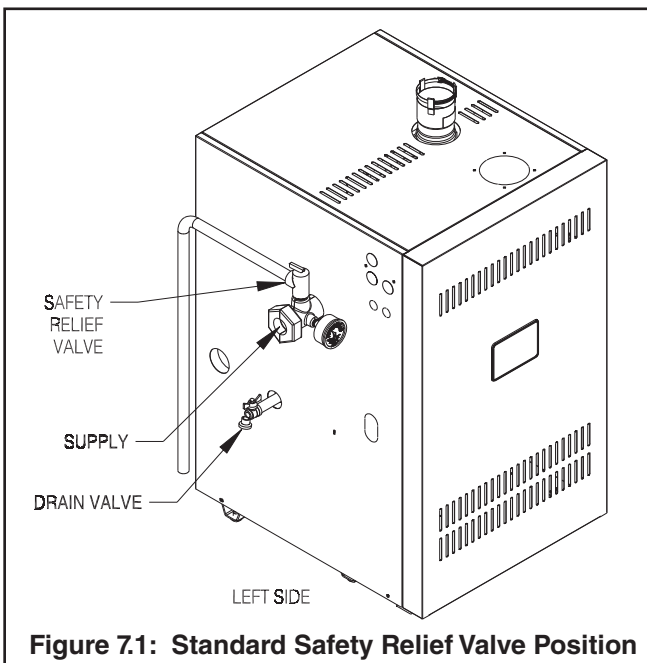

Figure 7.1: Standard Safety Relief Valve Position
1. Safety Relief Valve (Required) - Mount the relief valve on the left side of the boiler as shown in Figure 7.1 using the 1-1/4 supply water manifold provided with the boiler. The relief valve shipped with the boiler is set to open at 30 psi. This valve may be replaced with one having a pressure up to the "Maximum Allowable Working Pressure" shown on the rating plate. If the valve is replaced, the replacement must have a relief capacity in excess of the minimum relief valve capacity for the boiler.
10. Drain Valve - The drain valve is shipped in the boiler parts bag. Install it in the 3/4" tapping as shown in Figure 7.1.